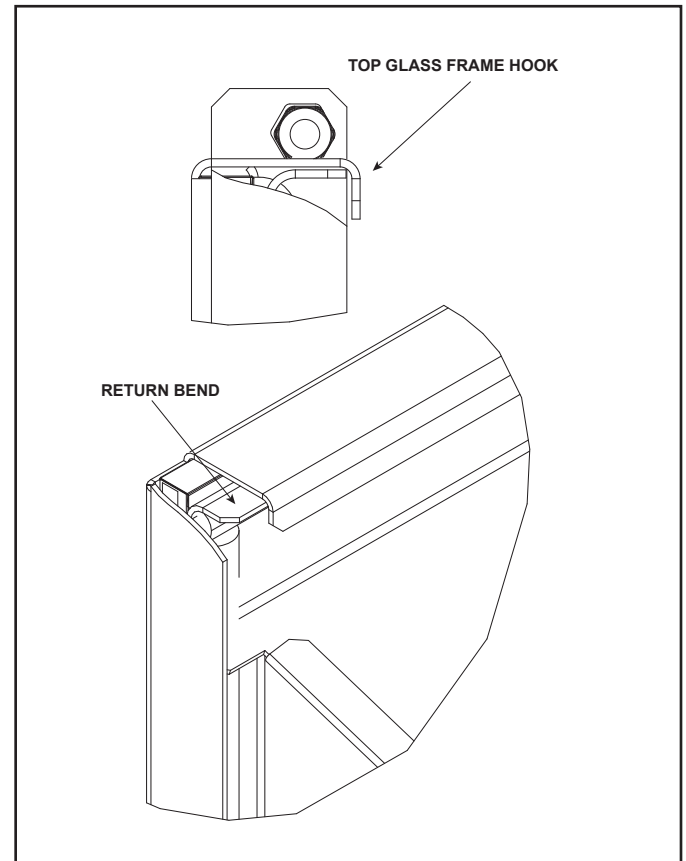

Figure 1.9. Top Glass Frame Hook
1. Insert the top glass frame hook on the return bend on the top side of the firebox. See Figure 1.9.